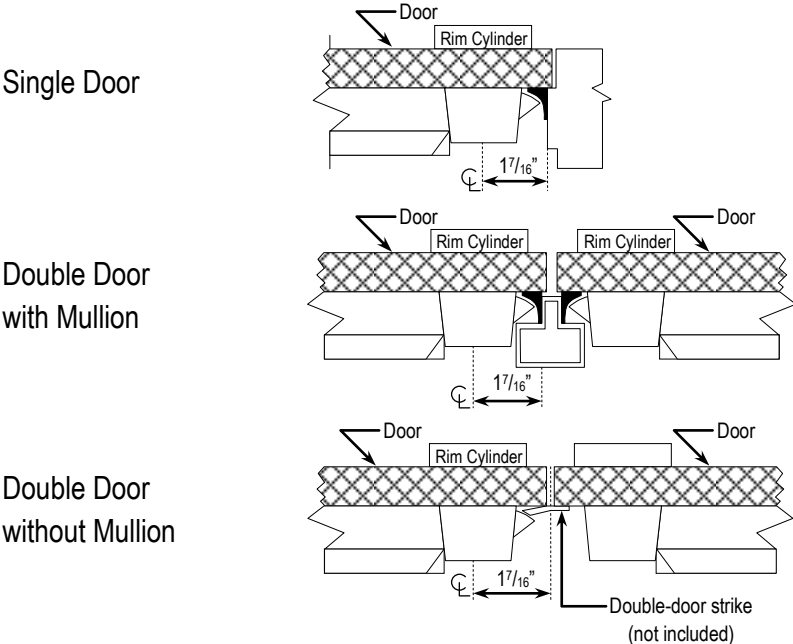

Fig. 4 – Mounting Location
1. Mark the vertical center line of the exit bar by drawing a line across the door at 41" above the floor. See fig. 4.